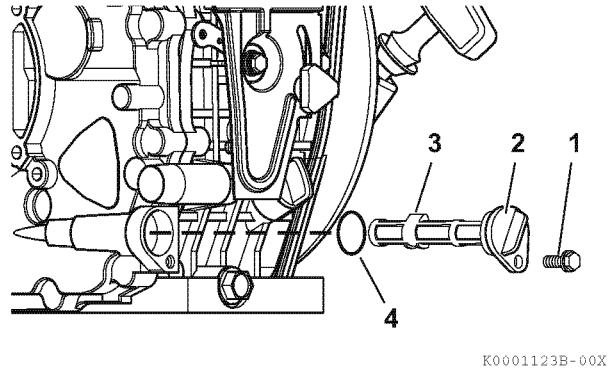

Figure 5-5
1. Remove the oil filter retaining bolt (1, **Figure 5-5**).
3. Pull the oil filter cap (2, **Figure 5-5**) out and remove the oil filter (3, **Figure 5-5**).
5. Lubricate the O-ring (4, **Figure 5-5**) with oil and reinstall the oil filter (3, **Figure 5-5**). Replace filter if damaged.
6. Make sure the oil filter cap is fully seated (2, **Figure 5-5**).
7. Reinstall and tighten the oil filter retaining bolt (1, **Figure 5-5**).